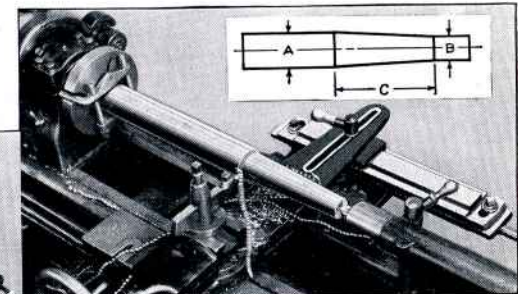
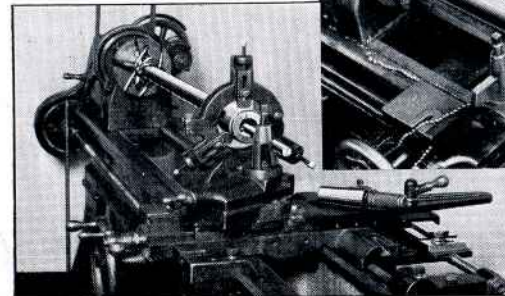

Fig. 183. Taper Turning with the Taper Attachment
Fig. 184. Boring a Taper with the Taper Attachment
To calculate the taper in inches per foot, subtract the diameter in inches at the small end of taper (B, Fig. 183) from the diameter in inches at the large end of the taper (A); divide the result by the length of tapered portion (C) in inches, and multiply by 12. The answer is the taper in inches per foot and indicates the graduation on the "taper per foot" end of the swivel bar which should be set in line with the witness mark in order to machine the desired taper. See Fig. 182A.
Turning an outside taper is shown in Fig. 183. Boring an inside taper with the aid of a center rest is shown in Fig. 184. See page 92.